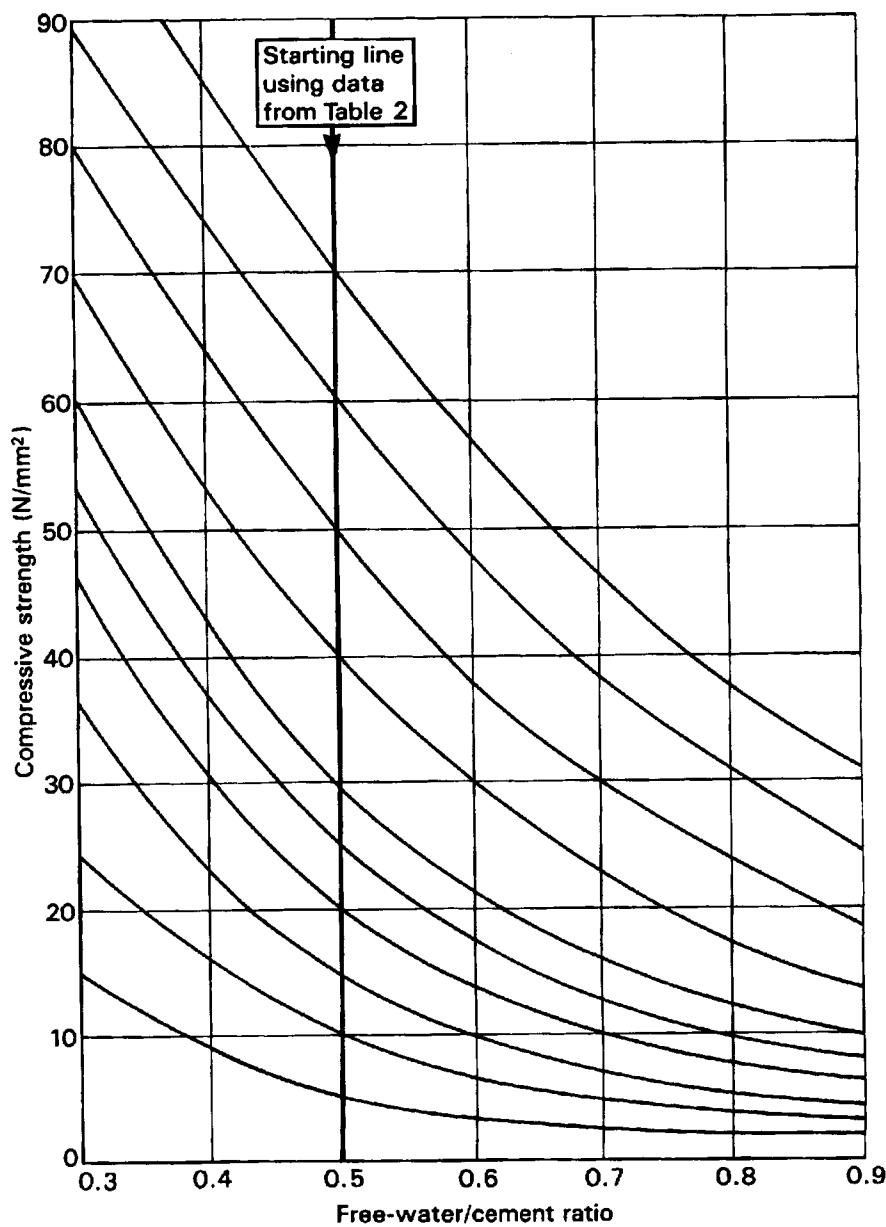

Figure 4
1.7 Free-water/cement ratio	Table 2, Fig 4 }